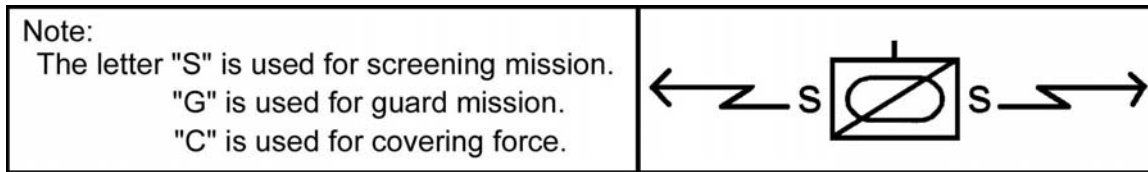

Figure 8. Unit with security mission.
- (1) Showed the general location of a unit with a security mission, arrows generally indicated the terrain over which the unit operates and the farthest extension of its mission (Figure 8).